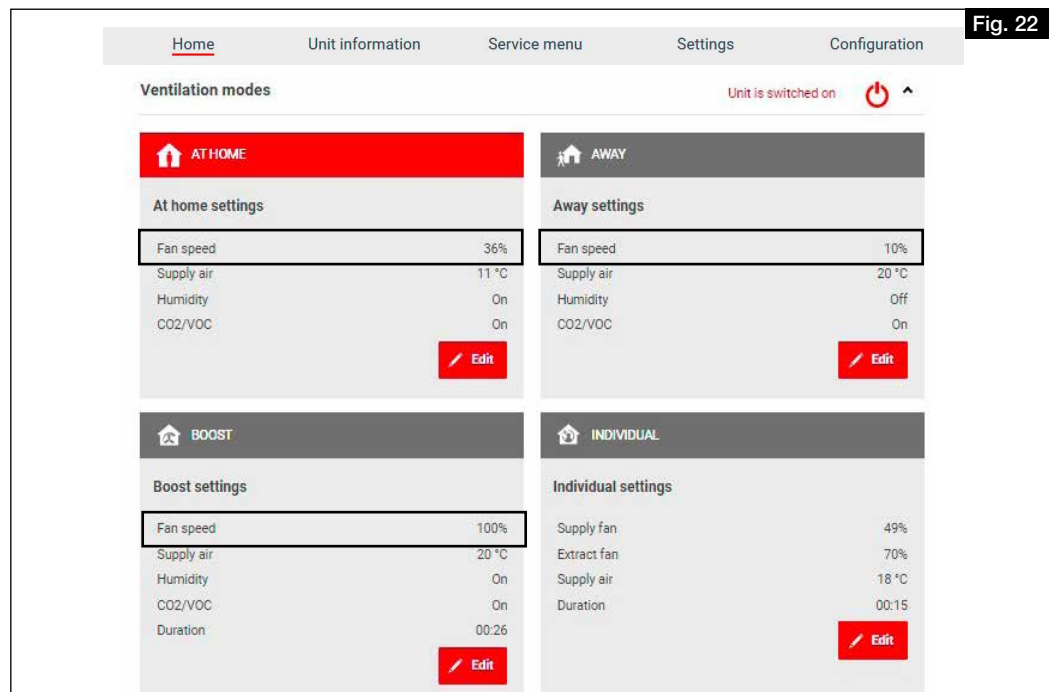
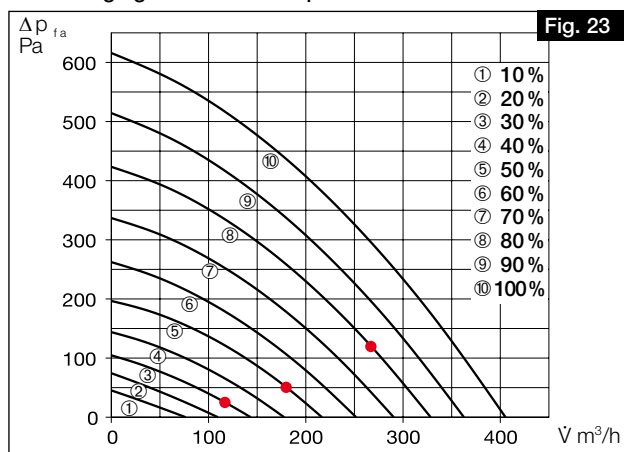

Fig. 22
Fig. 23
- ① Ensure approx. 20 cm straight settling section up to the measuring connectors!
2. Enter the following values for the fan powers in the respective ventilation profile via the easyControls software or the control element KWL-BE Touch: **Away:** 30 % / **At home:** 50 % / **Boost:** 80 % (cf. Fig. 22).
- Enter the determined differential pressures from the supply and intake air measurement in the unit characteristic curve for supply air (see Fig. 17 and Fig. 18) according to the fan outputs saved in the ventilation profile (cf. Fig. 22 and Fig. 23).
- Enter the determined differential pressures from the extract and exhaust air measurement in the unit characteristic curve for extract air (see Fig. 18 and Fig. 20) according to the fan outputs saved in the ventilation profile (cf. Fig. 22 and Fig. 23).
Switch units on/off in the Homepage menu (see Fig. 22).